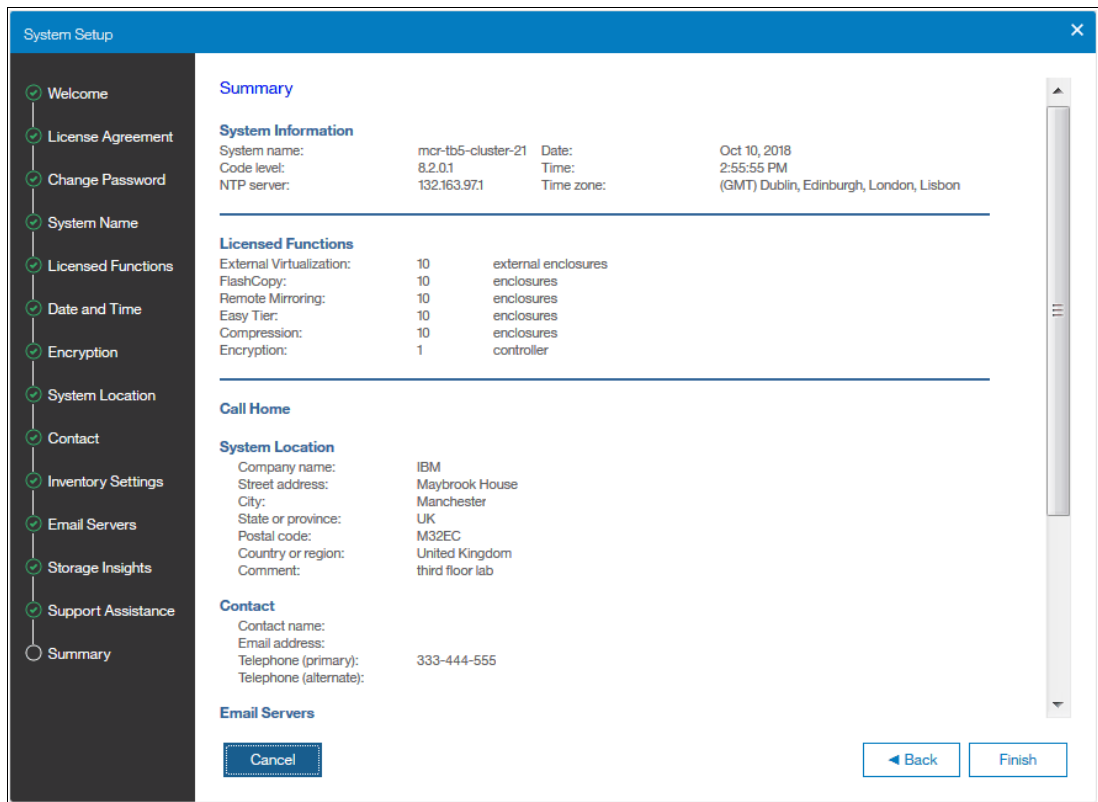

Figure 2-38 Setup wizard: Summary
19. After clicking **Apply and Next**, the Summary window for the contact details, system location, email server, Call Home, and email notification options opens, as shown in Figure 2-38.